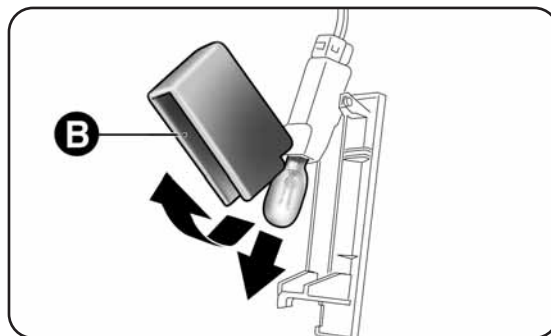

fig. 146
- open the protection B-fig. 146 and replace the bulb;